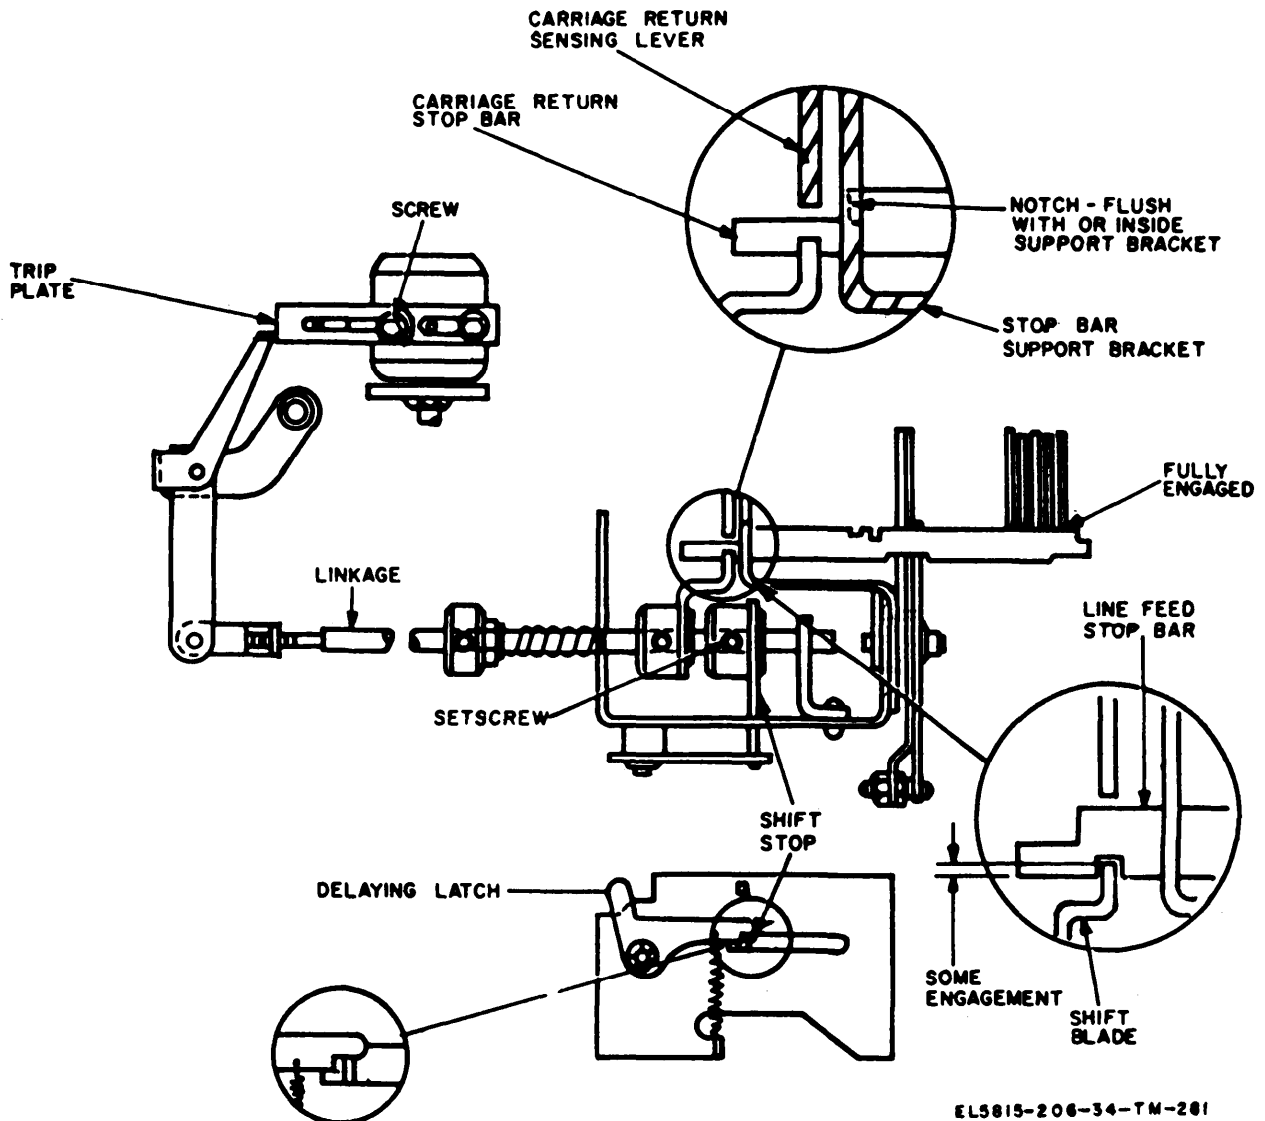

Figure 3-209. Automatic carriage-return shift stop adjustment (TT-537/G and TT-722(\*)/TG).
(1) Loosen the setscrews. Remove the connector link from the shift lever. Position the link and the shift blade to meet the requirement of *a* (1) above. Tighten the setscrews.
(2) Locate the connector link on the shift link. Reconnect the connector link to the shift lever to meet the requirement of *a* (2) above.
**3-241. Automatic Carriage Return Shift Stop Adjustment (TT-537/(G and TT-722(\*)/TG) (fig. 3-209)**
(1) When the carriage is in the 73 space position,